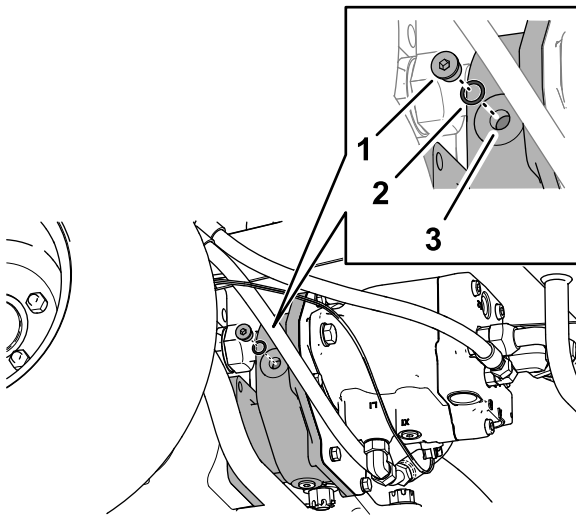

Figure 135
2. Remove the check/fill plug from the left side of the reduction-gear case (Figure 135).